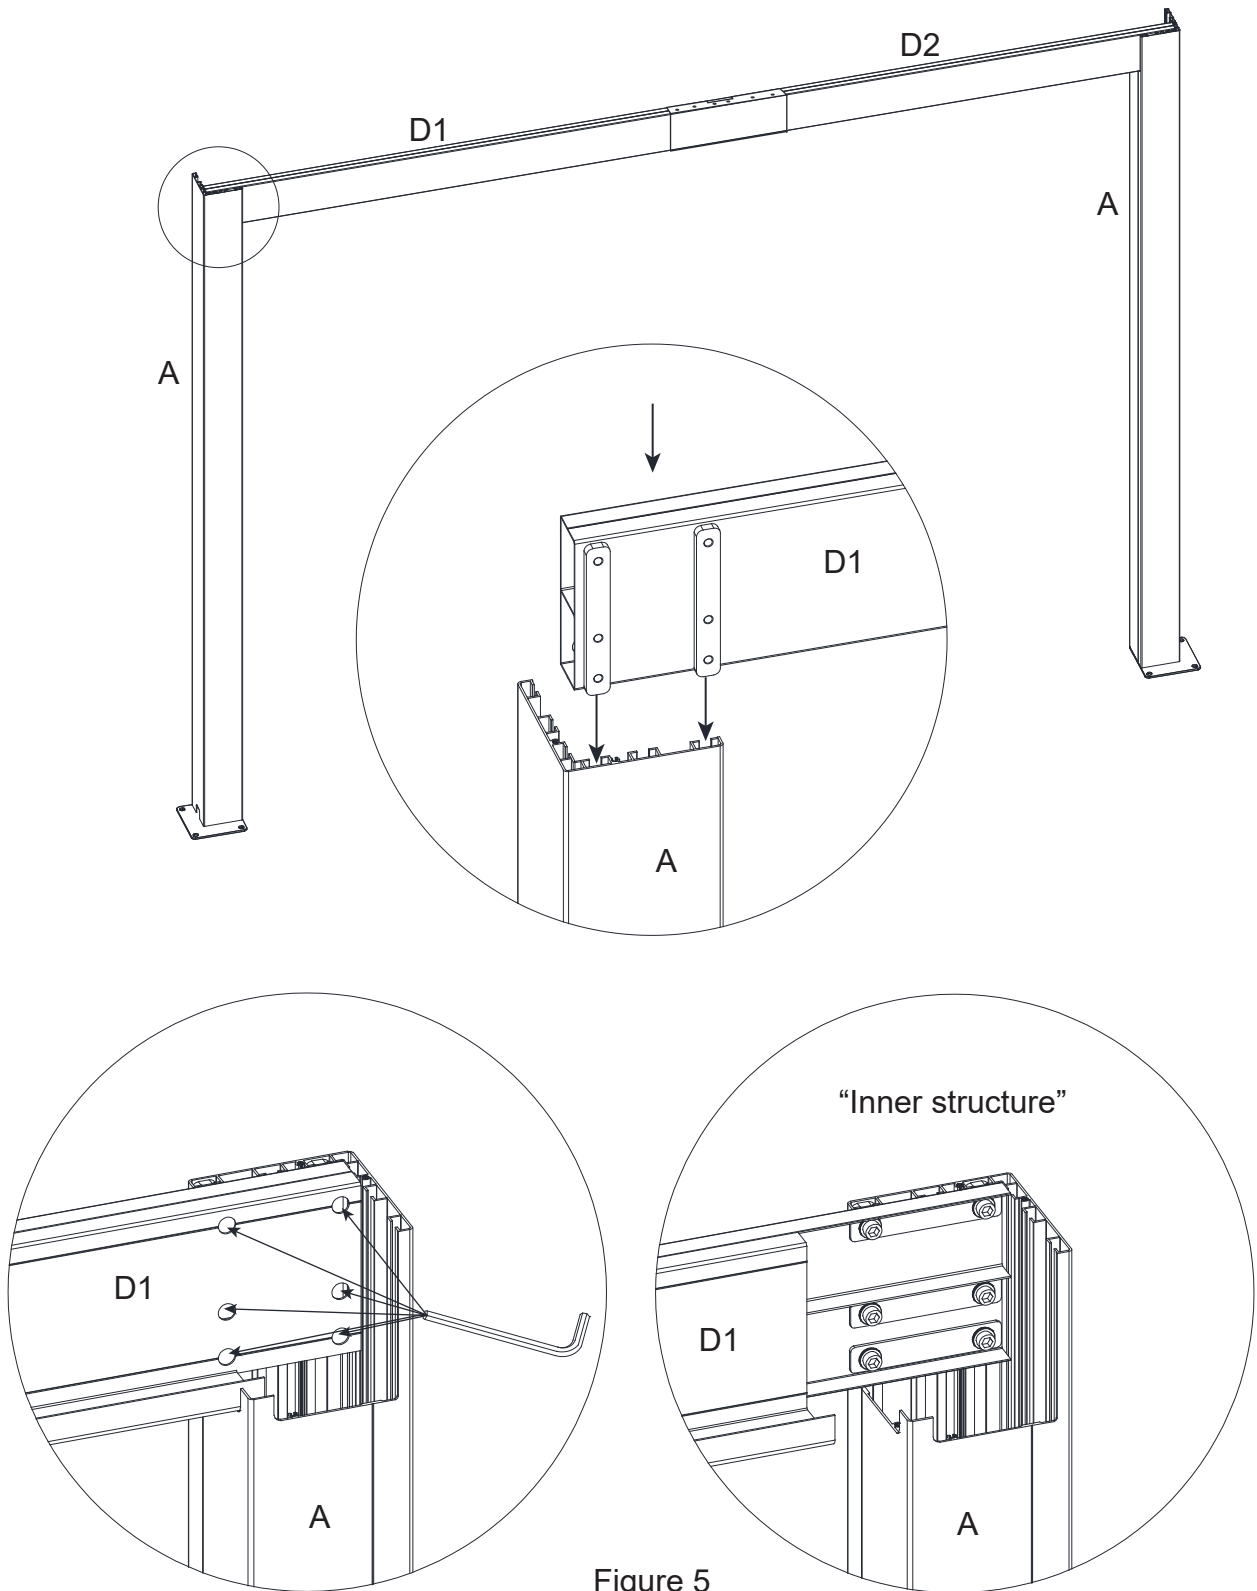

Figure 5
5. Slide both ends of the Front Lintel (D1/D2) into the built-in guide of the Corner Post (A), then tighten the bolts in the Front Lintel (D1/D2) by using Wrench .See Figure 5.